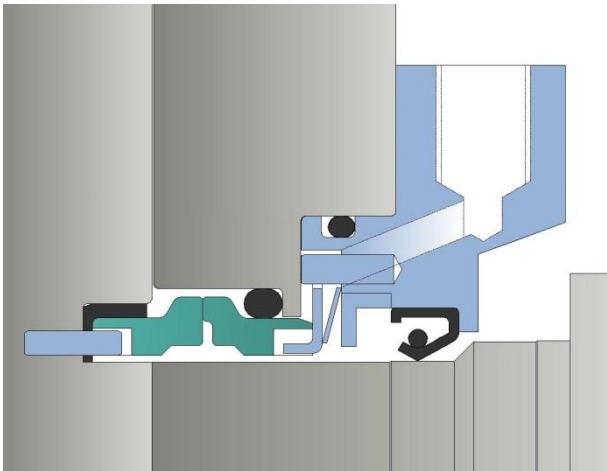

Figure 22 - Single flushed mechanical seal
- Push the new lip seals into the housings. Assemble the spacer collar, wave spring and drive plate as shown in Figure 22. (Also see 6.6 SEAL HOUSINGS)
- When re-fitting the rotor case to the bearing housing, take care that the lip seals and mechanical seals (80) are not damaged by the shaft splines or shaft ends.